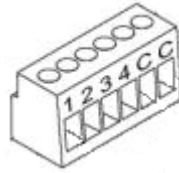

Figure 3. Input terminal block
- **Programming Button:** a short press on this button sets the device into the programming mode, making the associated LED (2) light in red. If this button is held at the same time of applying bus power to the device, QUAD will enter the Safe Mode. In such case, the LED will intermit in red.
- **Slots for the Input Lines:** insertion slot for the input terminal block (Figure 3), which is required for the connection of the input lines (1-4) to QUAD. For proper results, the terminals from the external elements (pushbutton, switch, sensor, temperature probe or motion sensor) should be connected on the one hand to the corresponding numbered connection point (1-4) of the terminal block, and on the other hand to any of the two common connection points (labeled as "C"), which are internally connected, which makes them equivalent to each other.